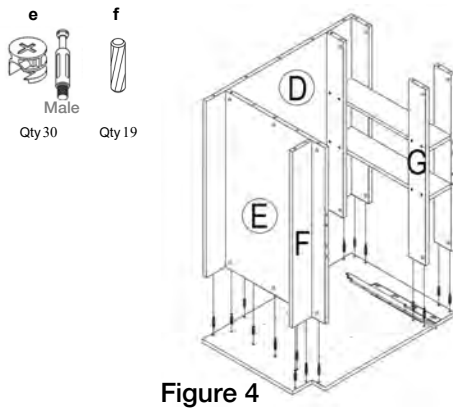
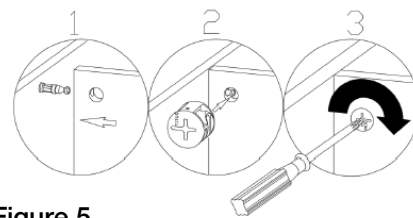

Figure 4
Figure 5
4. Install male cam locks (e) & wooden dowels (f) into designated holes on side panels (C). Use a screwdriver to tighten. (Figure 4)
5. Install bottom panel (E), back panel (D), toe kick (F), & braces (G) onto side panel. (Figure 4) Install locking lugs (e) into designated holes, and then lock them. (Figure 5)